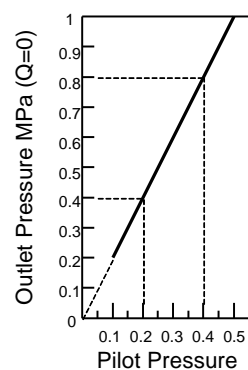

Fig.5 Performance characteristics
- Refer to Fig.5 for the relation between pilot pressure and downstream pressure.